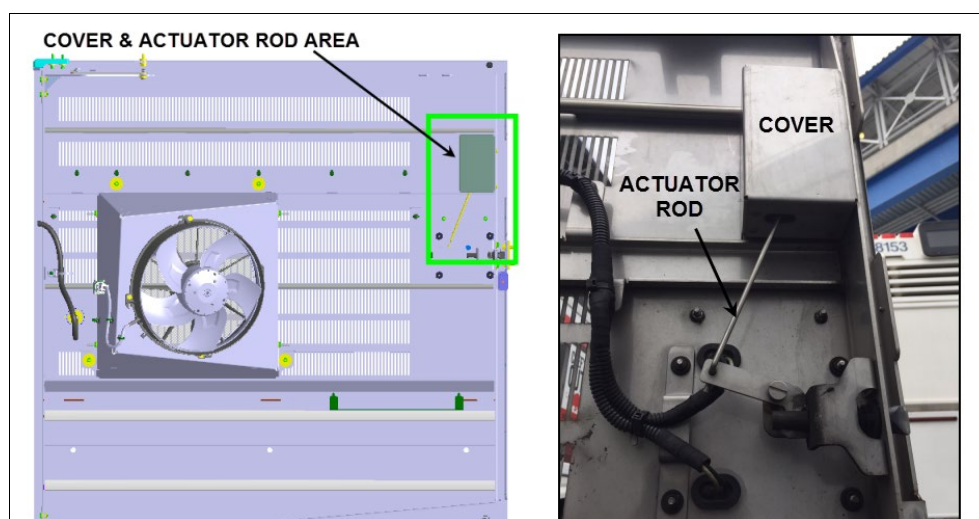

FIG.1 CYLINDER LOCK COVER & ACTUATOR ROD LOCATION
1. Locate the cylinder lock cover & actuator rod inside the compressor door (Fig.1).